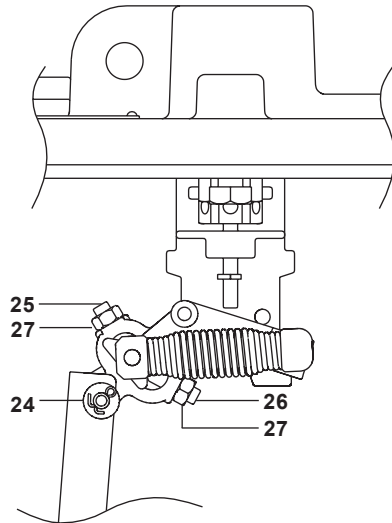

Fig. 8
2. Visually inspect the mechanism to verify that it is free of dirt and scale and moves freely. **Note: The socket set screws (Fig. 8 items 25, 26) are factory set and must not be disturbed during the following maintenance procedures.**
- a. Remove shaft (item 24, Fig. 8) from mechanism end of connector rod and rotate float and connector rod to opposite side of pillar.